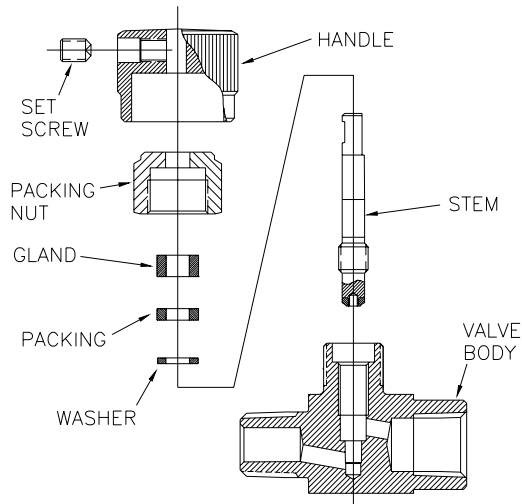

Figure 2: Bar Stock Needle Valve
3. Refer to Figure 2. Remove the Packing nut (located directly under the Handle) by turning counter-clockwise with an 5/8 inch size hex wrench.
- A) PTFE Stem Packing (standard): Refer to Figure 2. Stack the three packing components on the Stem (either “K” or “R”) in the following order, with the first item being placed above the Stem threads. Then proceed to Step 8.